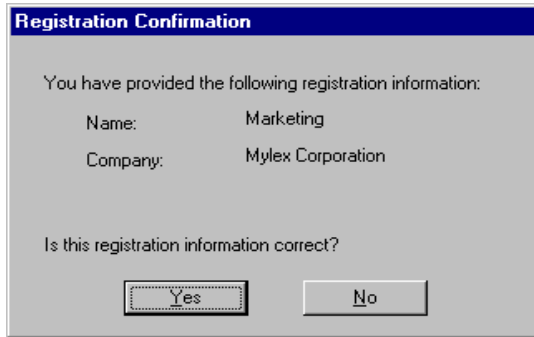

Figure 2-5. User Verification Dialog Box
8. The installation program allows you to verify the information you entered (Figure 2-5). To continue, click Yes. To change the information, click No, enter the desired information, then click Next to return to the dialog box shown below: